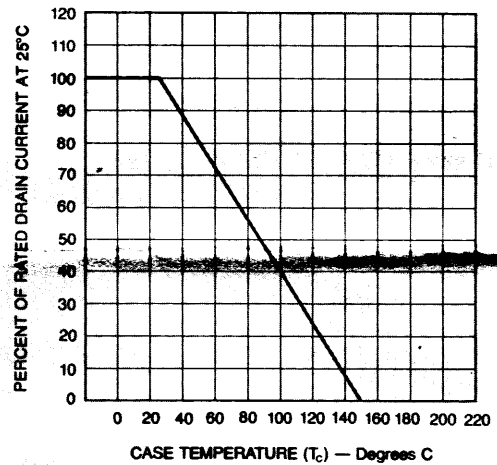

Figure 2. Derating Curve for All Types.
- Linear Derating Factor =  $0.8W/^\circ C$  (see Figure 2).